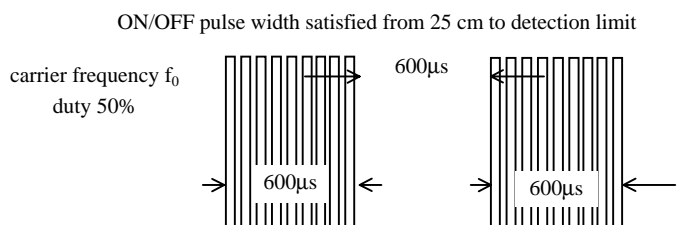

Fig 1. Burst Wave
(1) Measuring place .....Indoor without extreme reflection of light.
(2) Ambient light source... Detecting surface illumination shall be  $200 \pm 50$  Lux under ordinary hite fluorescence lamp of no high frequency lighting.
(3) Standard transmitter ... Burst wave indicated in Fig 1. of standard transmitter